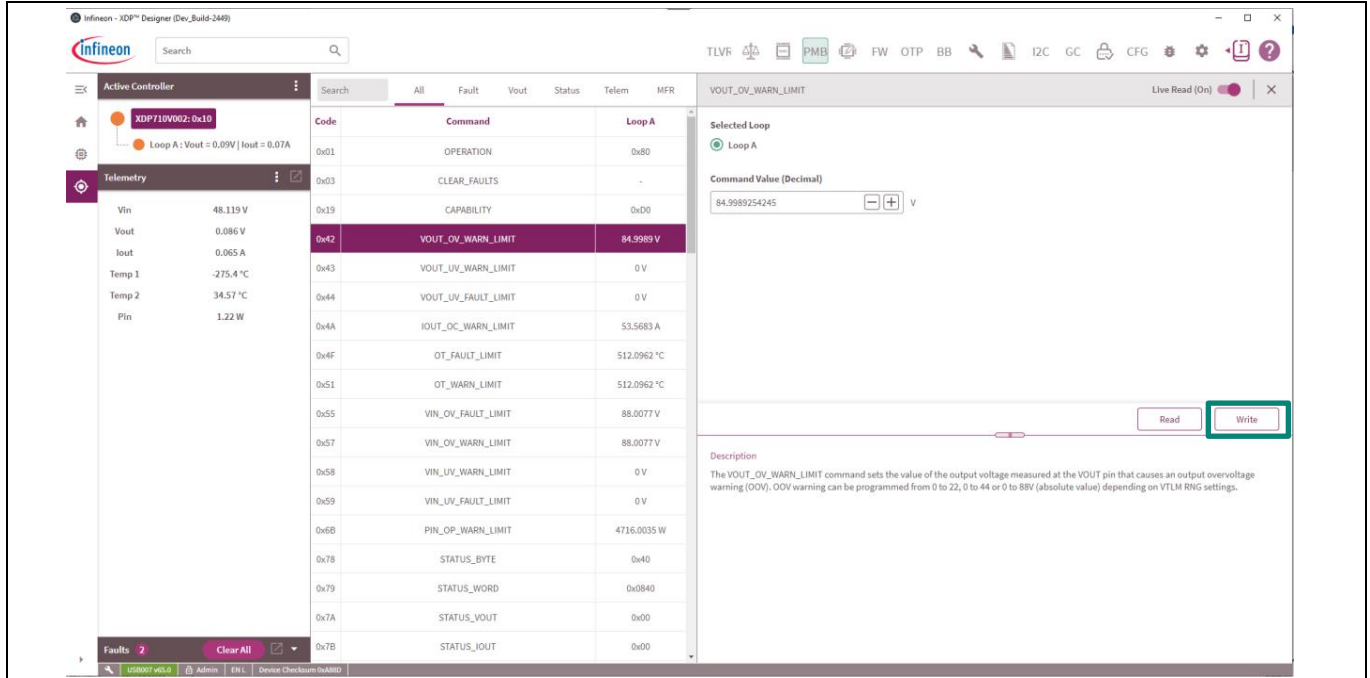

Figure 24 Editing VOUT_OV_WARN_LIMIT
- For editing any register individually, click on the corresponding PMBus register, make the necessary changes, and then click **Write** as shown in Figure 24.